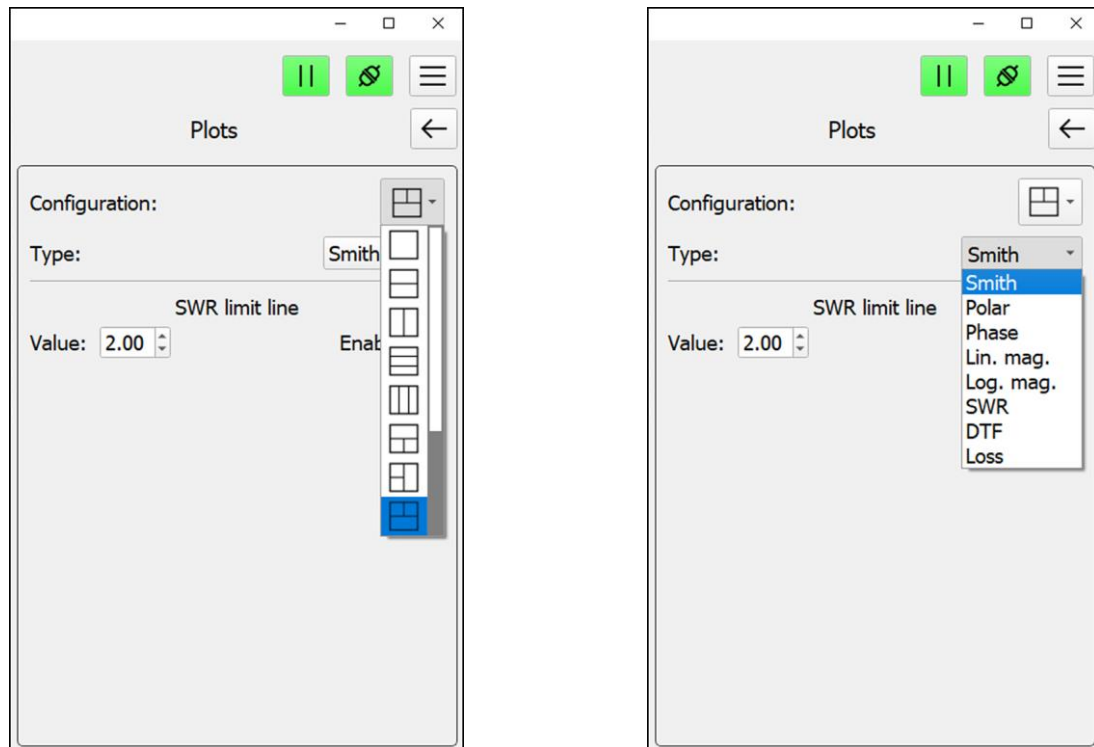

Figure 5.3 - configuring the graphs displayed on the screen
5.3.1. Enter the «**Plots**» section of the main menu (figure 5.3).